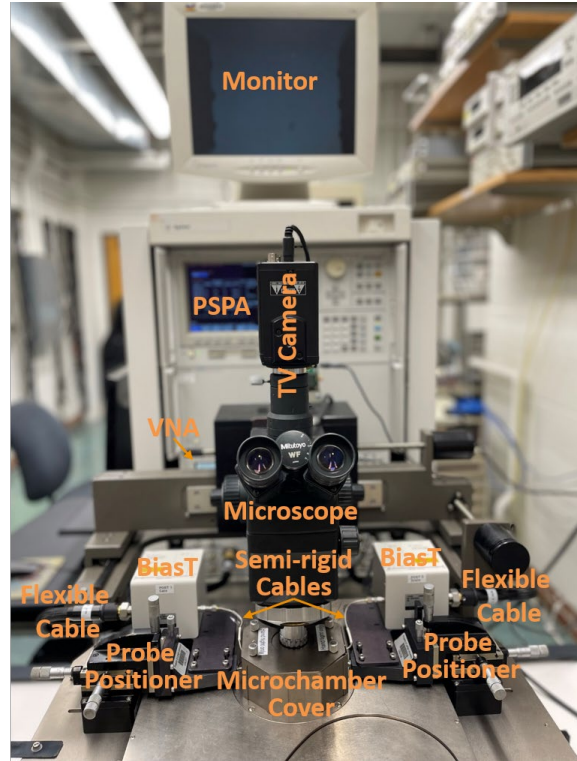

Fig. 1.1. Small-signal probe station.
Fig. 1.1 shows that this tool is based on a Cascade Summit 9600 probe station on top of a Kinetic Systems 1201 vibration-isolation table. The probe station is equipped with two Cascade 103-754 x-y-z- θ probe positioners, a Mitutoyo 378-134-4 microscope (with long working distance and a built-in TV camera), and a 6"-diameter microchamber and thermal chuck (-50 to 200 °C). The thermal chuck is controlled by a Temptronic TPO3000 ThermoChuck system. Normally, the probe station is configured for room-temperature measurements with the microchamber cover removed and the thermal chuck turned off. The RF signal path consists of an Agilent E8364B vector network analyzer (VNA), two long and flexible cables, two Agilent 11612V bias tees (capable of pulsed biases), two short and semiflexible cables, and two probes. All of them have 2.4-mm coaxial connectors to support a 50-GHz bandwidth. (Although adaptors can be used to accommodate probes with 2.9-mm or 3.5-mm connectors, they will reduce the bandwidth to 40 GHz and 26 GHz, respectively. In this case, ask the tool owner or an expert user to install the adaptors and/or different cables for you. **Never change the adaptors or cables yourself!** Although SMA connectors can mechanically mate with 3.5-mm and 2.9-mm connectors, they are not allowed because they would not only degrade the system performance, but also damage the 2.9-mm or 3.5-mm precision connectors.) The DC bias is supplied by an Agilent 4156C precision semiconductor parameter analyzer (PSPA). Both the DC and RF signals are controlled by a personal computer (PC) running Keysight IC-CAP on Windows 10, together with the MPI QAlibria RF calibration software. For users interested in exploring the full capacity of the tool, ask the HFTL manager for manuals provided by manufacturers of individual instruments. **If you have any question or doubt about the following instructions, discuss it with the HFTL manager before you unilaterally bend the rules!** If you are not sure about something, just ask, he will be happy to help.